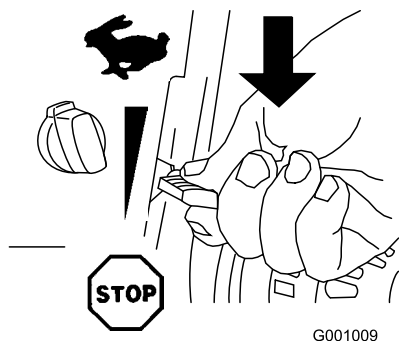

Figure 28
1. Move the throttle to the Stop position (Figure 28).